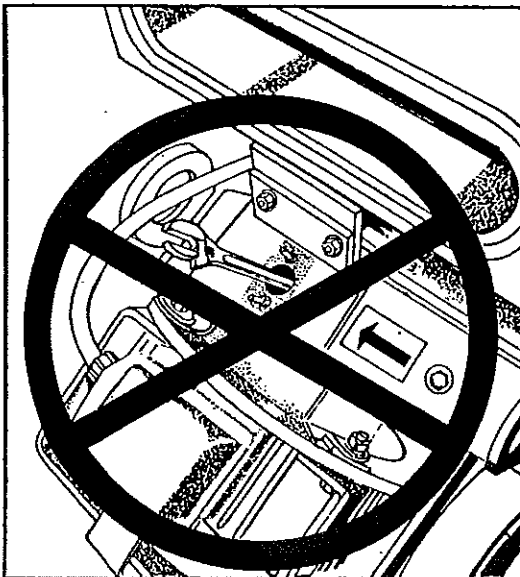

Figure 2. Do Not Secure Wheel by Inserting Objects in this Manner.
- b. Remove impeller bolt. Insert impeller bolt wrench (Tool No. 168083) into bolt in center of impeller. Using the wrench rotate the wheel clockwise and sharply snap the wrench in a counter-clockwise direction to loosen the bolt. **CAUTION: DO NOT HOLD WHEEL BY INSERTING AN OBJECT INTO THE IMPELLER OPENINGS OR INSPECTION COVER ON WHEEL HOUSING.** (FIG. 2).
- g. **CAUTION: DO NOT HOLD WHEEL BY INSERTING AN OBJECT INTO THE IMPELLER OPENINGS OR INSPECTION COVER ON WHEEL HOUSING. (FIG. 2).** Install new impeller bolt and lock washer. Finger tighten bolt. Insert impeller wrench and snap wrench in a clockwise direction to tighten bolt. The bolt must be tightened sufficiently to flatten the split-ring lock washer. **CAUTION: KEEP FINGERS CLEAR OF IMPELLER OPENINGS WHEN TURNING WHEEL!**